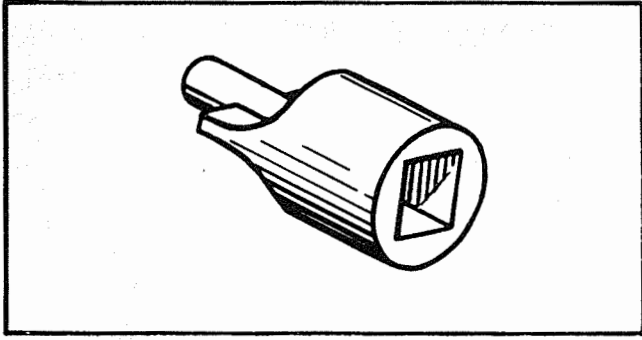

Figure 7-78. Cylinder Head Thermocouple Adapter Lug Wrench
**7-172. REMOVAL.** Remove the thermocouple by turning it counterclockwise and pulling it out of the adapter. When it is necessary to remove the adapter, use wrench 806834. See figure 7-78. Replace the thermocouple adapter and tighten to 20 - 50 inch-pounds.